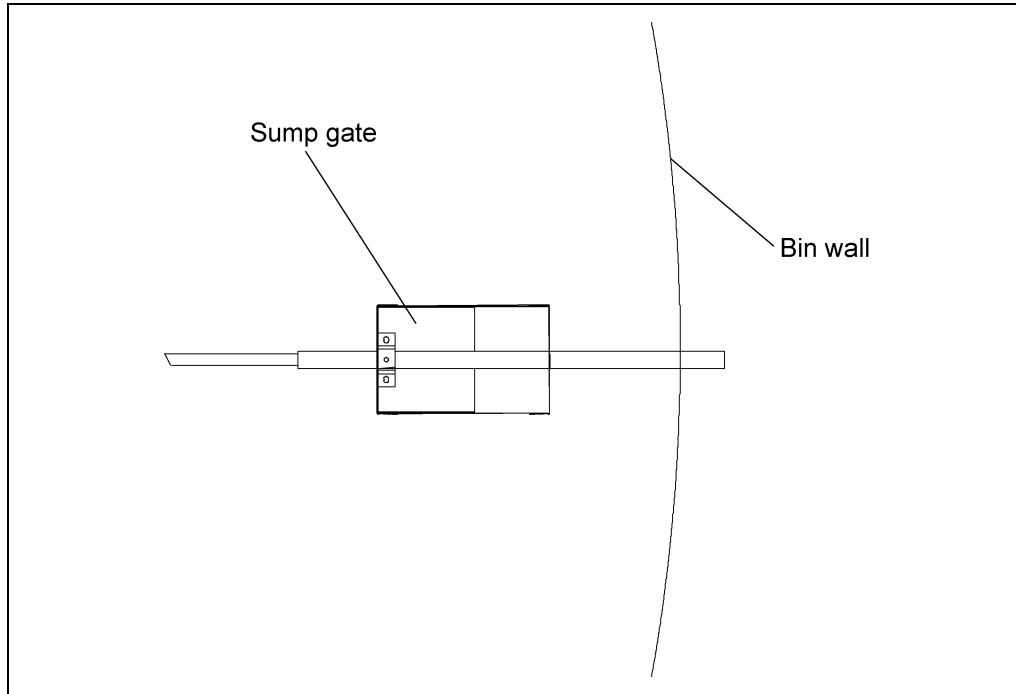
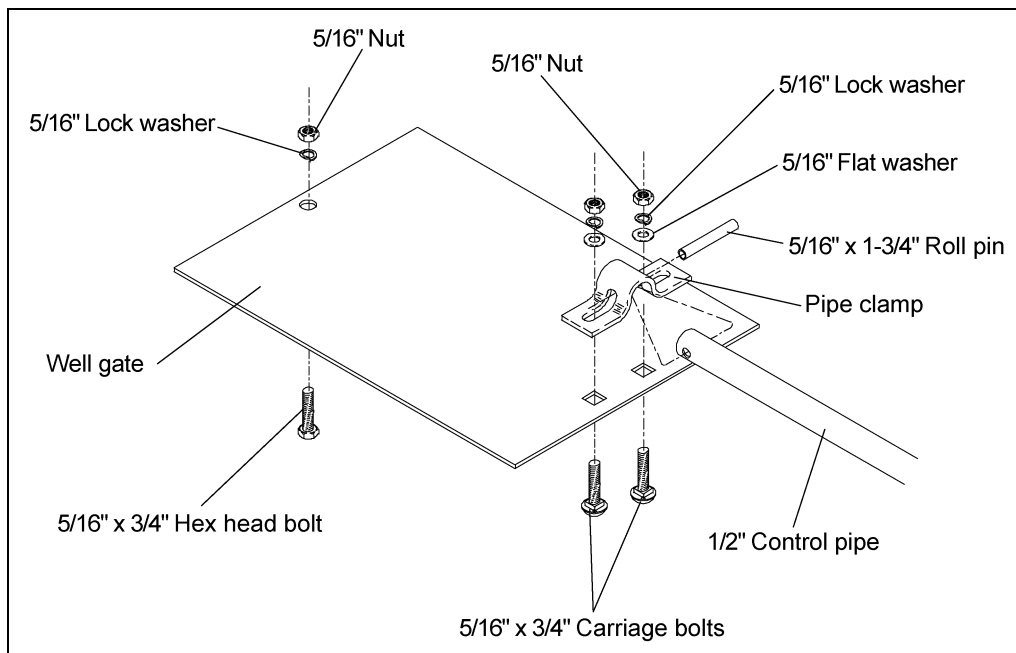

Figure 4D
Figure 4E
6. Loosely attach the intermediate sump body to the unload tube so the control pipes can be put in place. **NOTE:** *Make sure the intermediate is positioned to pull the sump open.* (See Figure 4D.) The slide gate must be in place before the control pipes are inserted. Slide the large control pipe through the wall into the intermediate sump. Slide the smaller pipe through to the center sump. Secure the pipe to the center gate with the clamp and 5/16" x 1-3/4" roll pin provided. A 5/16" hole is drilled through the pipe 1/2" from the end of the pipe. Place the roll pin in the hole and bolt the clamp and pipe into place with 5/16" x 3/4" bolts. Make sure the 5/16" bolt is in the opposite end of the gate so the gate will remain in the well. The center well should be secured to the flooring with the self-drilling screws and 5/16" bolts provided. (See Figure 4E.)